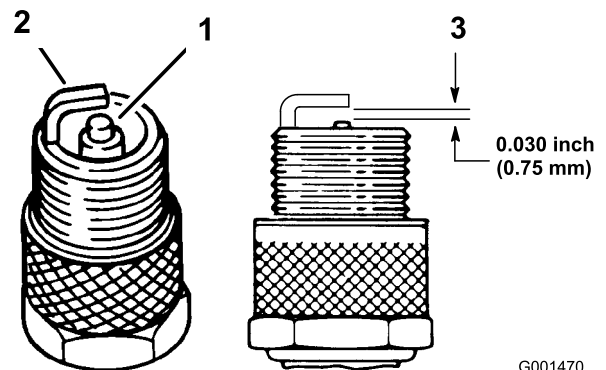

Figure 31
1. Look at the center of the spark plugs (Figure 31). If you see light brown or gray on the insulator, the engine is operating properly. A black coating on the insulator usually means that the air cleaner is dirty.
3. Check the gap between the center electrode and the side electrode (Figure 31). Bend the side electrode (Figure 31) if the gap is not correct.
3. Connect the wires to the spark plugs (Figure 31).